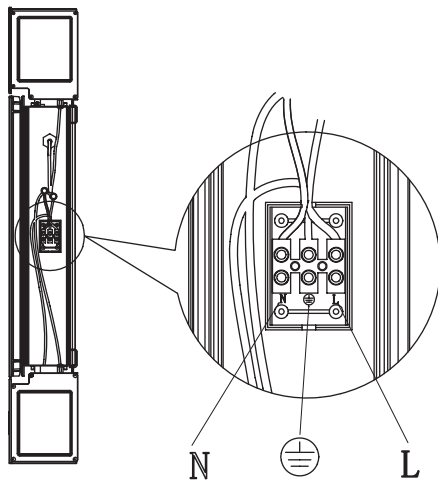

Fig.6/ รูปที่ 6
1. Connect the power wire according to the marks on the junction box, see Fig.6.